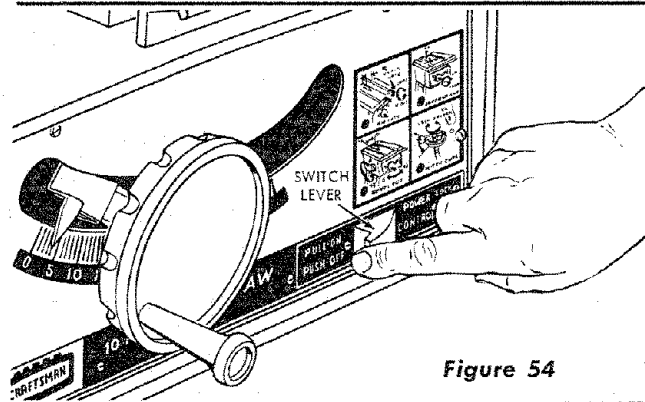
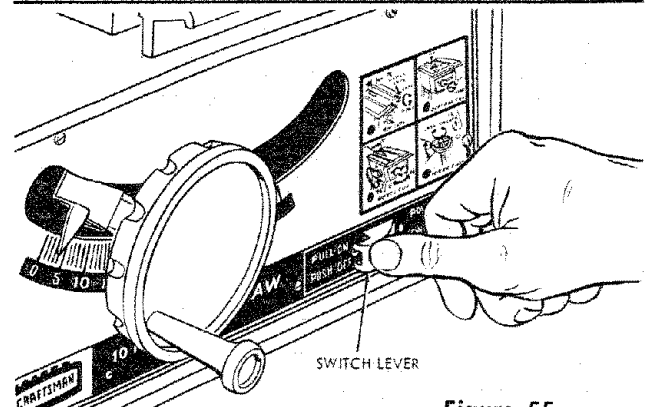

Figure 54
Figure 55
7. **ON-OFF Switch** — also at lower right of saw base. The switch lever is of unique design for maximum safety protection. It is turned "on" by inserting the forefinger under end of lever and pulling it outward. (See figure 54.)
The switch can be turned off by thumb pressure (figure 55) or by striking it with any part of the body.
NOTE: At this point, plug in the power cord, insert the key and turn it to the unlocked position and pull the ON-OFF switch lever out to start the saw (figure 54.) Turn off the ON-OFF switch by pressing the lever inward (figure 55) to stop the saw.